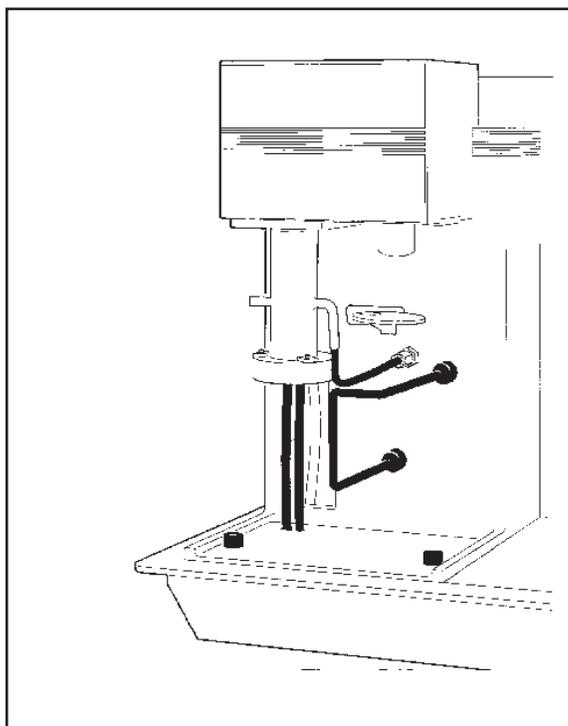

Figure 3.3
4. Press the FURNACE key to close the furnace by moving it up around the sample (Figure 3.3).